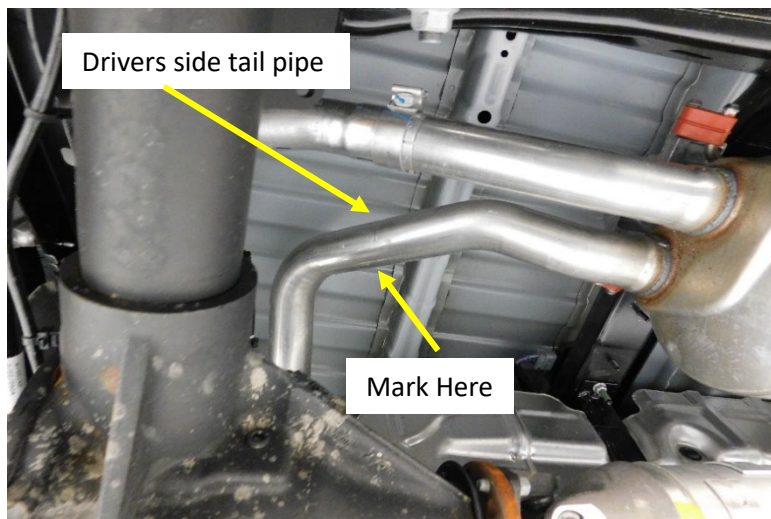
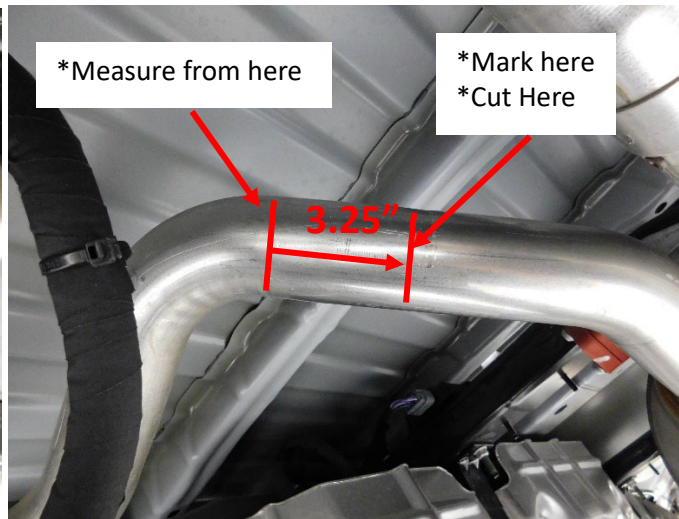

Figure.1
Figure.2
2. Cut the left (Drivers Side) tail pipe at the location in **Fig. 1/ Fig. 2**
Fig.2 Note : This cut can be made anyplace after the muffler , Cutting at this location will make returning the factory exhaust a simple task with a band clamp if it's required later.